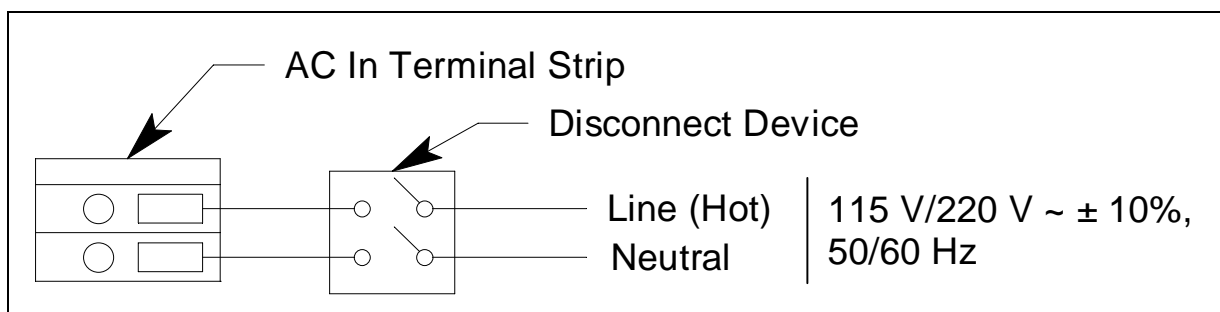

Figure 6: AC Power Wiring
6. Connect the line (hot) and neutral AC wires to the AC power terminal strip as shown in Figure 6.